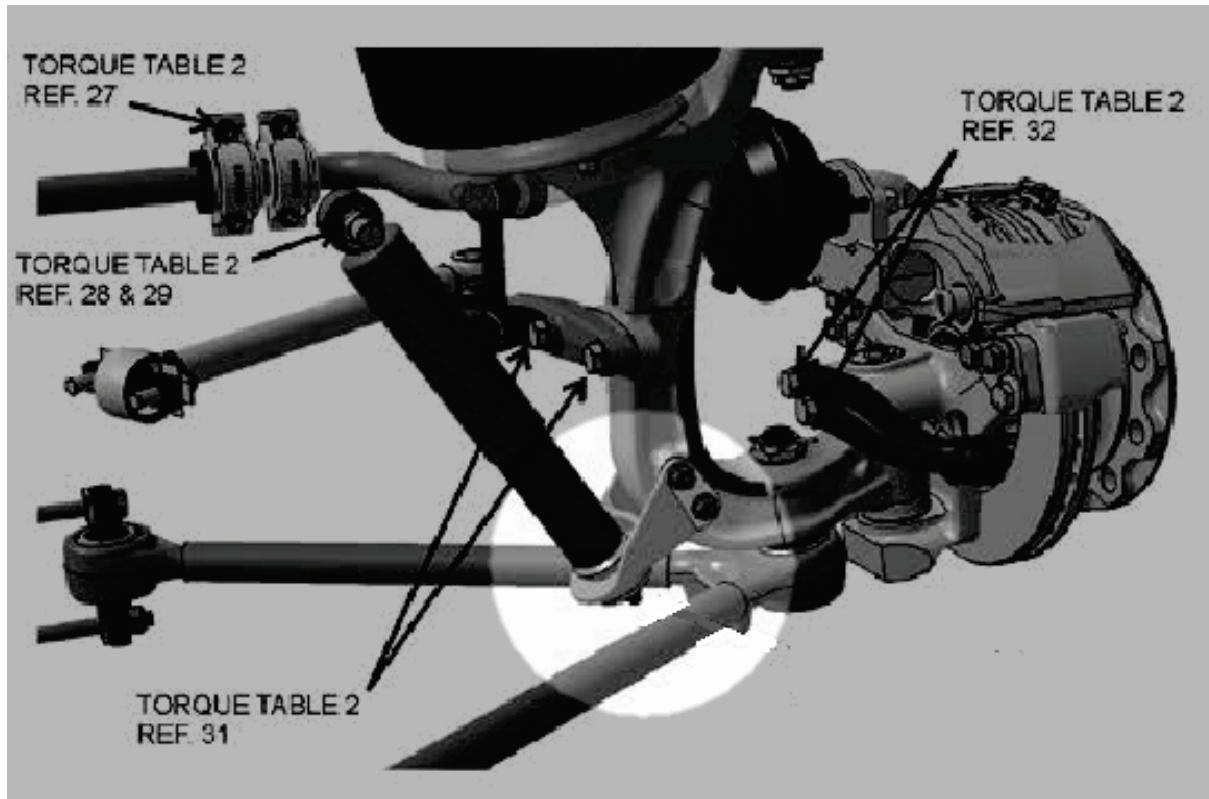

Figure 1
1. Inspect the nut head profile on the anchor bolts of the shock absorber mounting.(Fig.1)